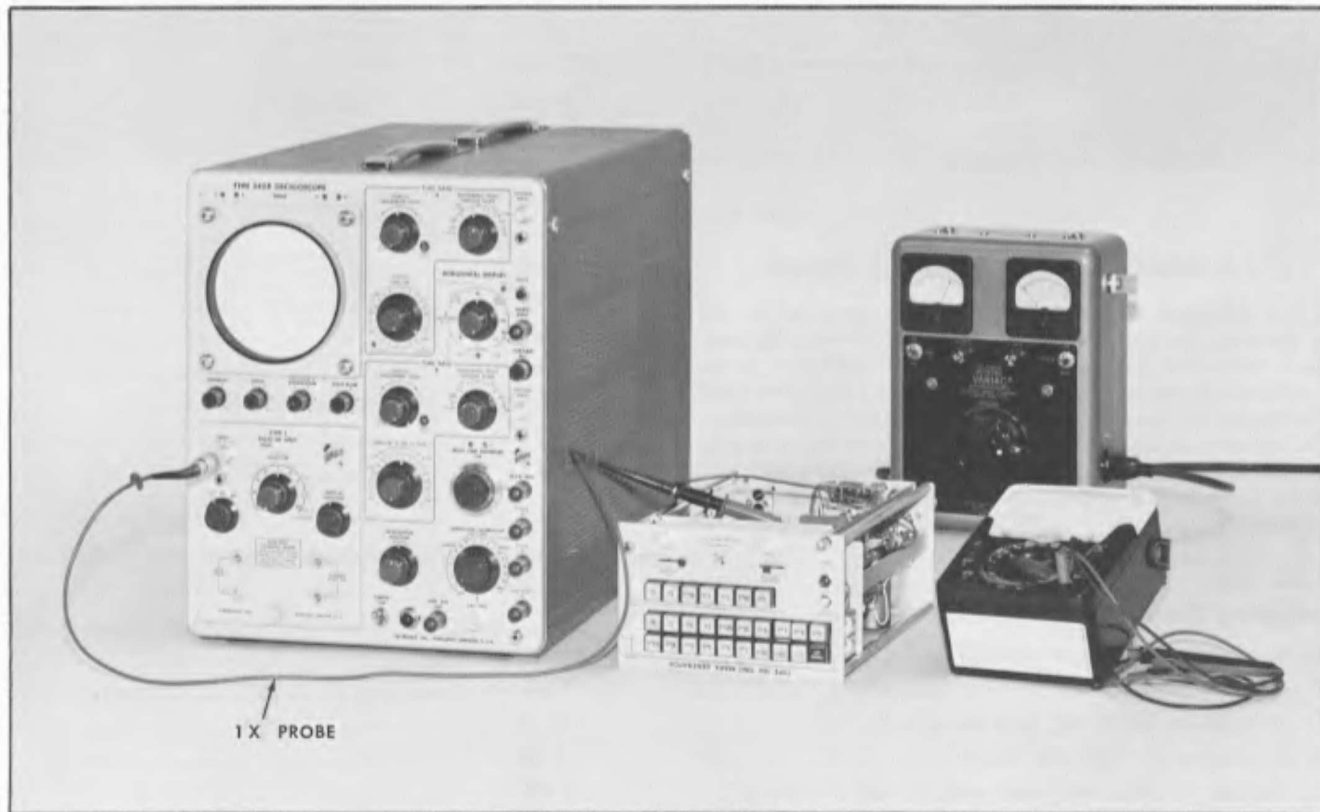

Fig. 6-3. Initial test equipment set-up to check and adjust voltages.
- Test equipment setup is shown in Fig. 6-3.